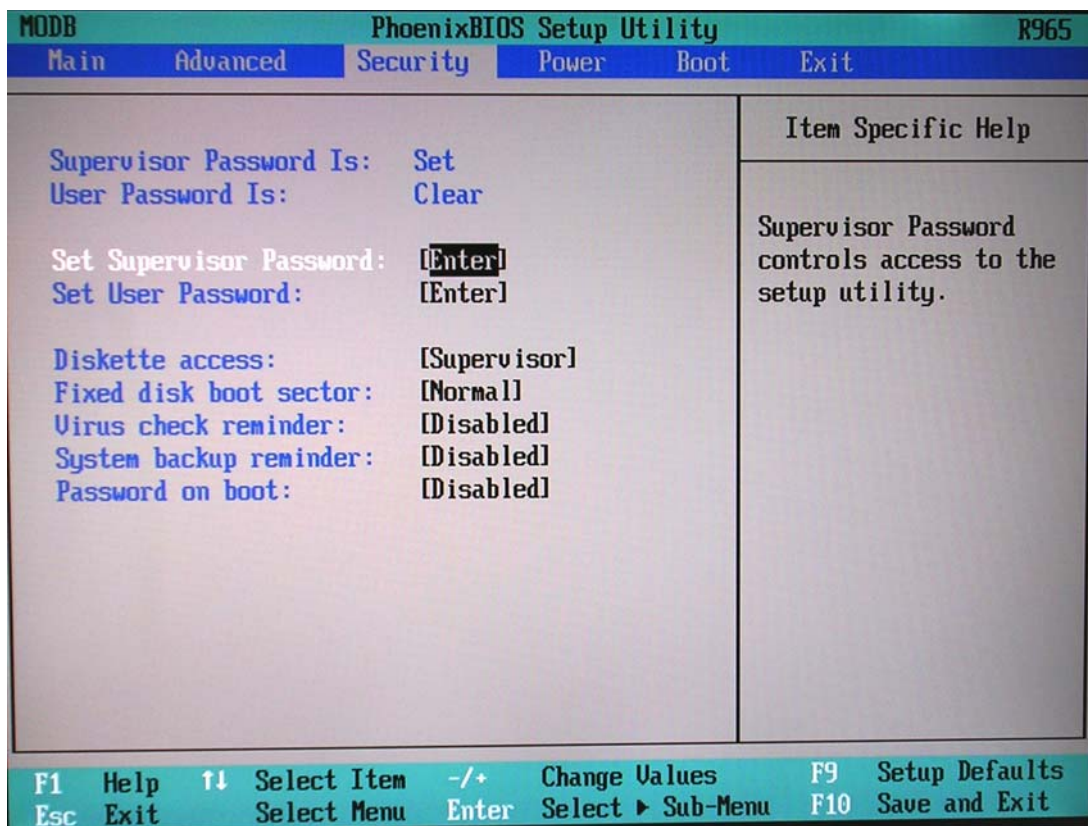

Figure 8-66 BIOS Security Parameters
Security	Figure 8-66 on page 8-76
- 3.) Set the parameters in the **Security** screen as shown above in Figure 8-66.